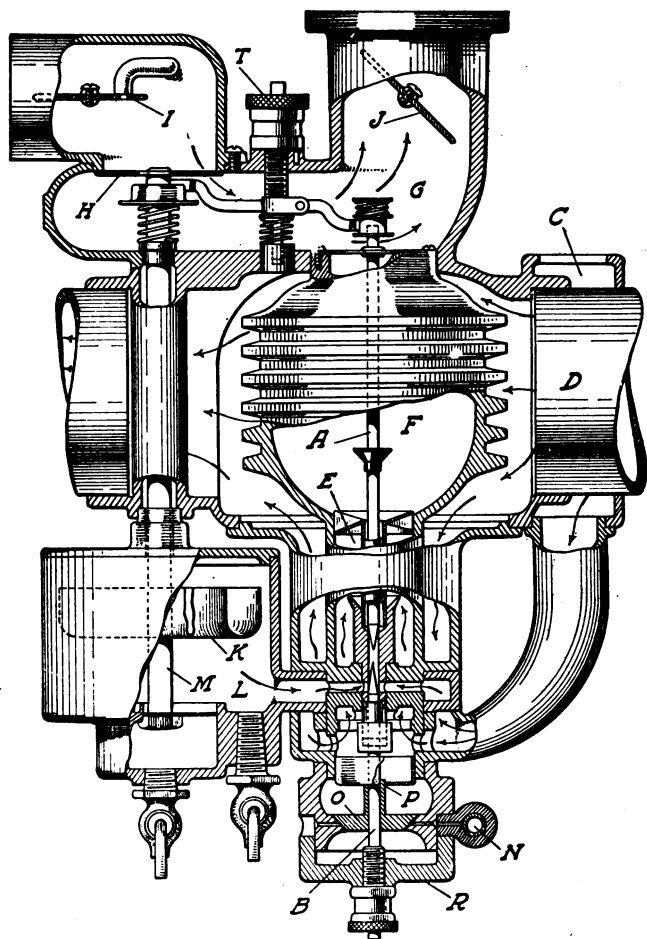

Fig. 128. Section through Bennett Double-Jet Kerosene Carburetor
**Bennett Carburetor.** The Bennett device, Type "C" which is shown in section in Fig. 128, is intended for kerosene, alcohol, distillates, or other heavy fuels, but by a simple change of the adjustments it can be used for gasoline. For alcohol, however, the makers provide a special float, the carburetor remaining the same otherwise. It has two needle valves: one projecting downward from the top of the device *A*, called the slow-speed needle; and the other, projecting upward from the bottom *B*, called the high-speed needle. The primary air for both enters at *C*, passes around the exhaust heating pipe *D*, and enters from below. It rises around the lower needle and fuel passage into the chamber *E*, where the fuel is picked up and carried up into the main vaporizing chamber *F*. From here it passes up into the passage *G*, where additional air comes in from the air valve *H*, after passing the air throttle *I*. This dilutes the mixture and completes vaporization, and the mixture passes the main throttle *J* into the manifold, or engine.